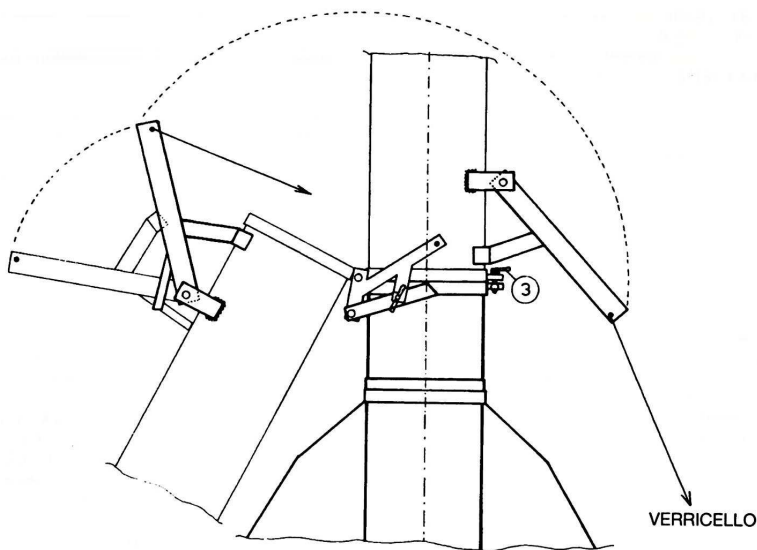

FIG 3B - VERTICAL AUGER FOLDING
Step Five: Using the vertical auger winch (beside the control cabinet) **raise** the folding auger into its vertical position. Once the auger is correctly positioned climb the ladder and tighten up the wing nut item 3 in Fig 3b.
First Step: To start the lowering of the top auger extension pull the wire that is positioned at the rear of the dryer and has at its end a round steel ring. Obviously you need to undo the wing nut item 3 in Fig 3b first.